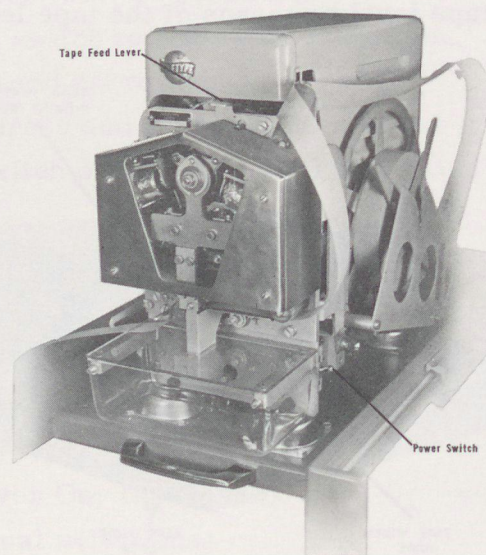

Figure 4-6. Paper Tape Punch
- 5) Insert tape as shown in figure 4-6. Make sure that the tape is properly aligned.
The paper tape punch (figure 4-6) is mounted on a hinged rack at the rear of the right wing of the console. Punch tape feeds out of a slot in the compartment door; the chad box is just inside the door.
- c) Thread tape as shown in figure 4-6. Bring tape around lower roller and into guides leading to punch block.